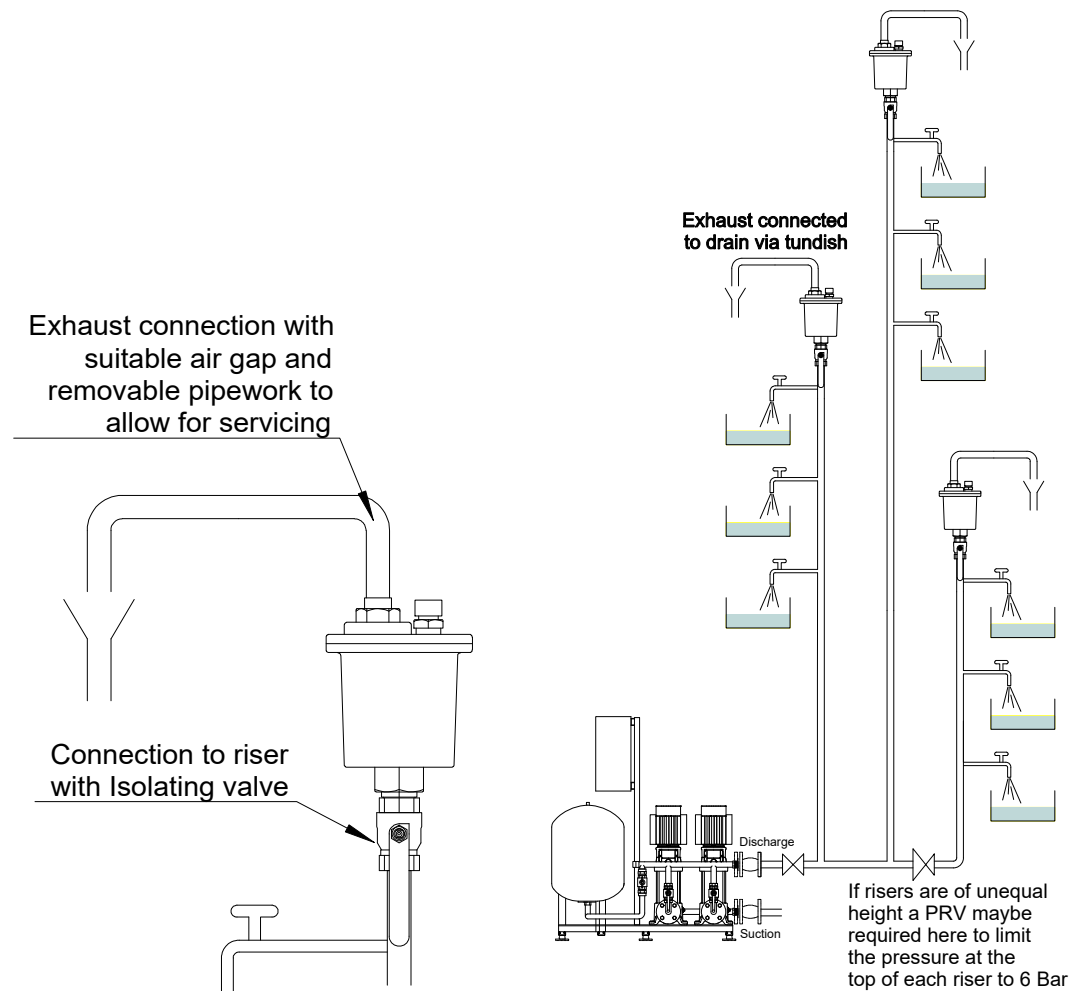

Fig. 1.1 Typical Pipework arrangement Fig. 1.2 Example of multi-riser use
- 1.3.2.1 Install the AquaVent at the top of the riser (see Fig 1.1) noting location conditions above.
- 1.3.2.6 AquaVent must be installed vertically as shown in Fig 1.1